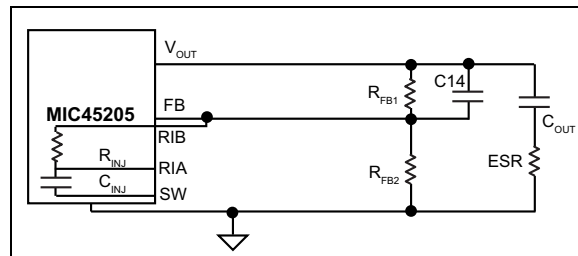

FIGURE 5-5: Internal Ripple Injection at FB via RIB Pin.
2. Virtually no or inadequate ripple at the FB pin voltage due to the very-low ESR of the output capacitors, such as the case with ceramic output capacitor. In this case, the V_{FB} ripple waveform needs to be generated by injecting suitable signal. MIC45205 has provisions to enable an internal series RC injection network, R_{INJ} and C_{INJ} as shown in Figure 5-5 by connecting RIB to the FB pin. This network injects a square-wave current waveform into the FB pin, which, by means of integration across the capacitor (C_{14}), generates an appropriate sawtooth FB ripple waveform.